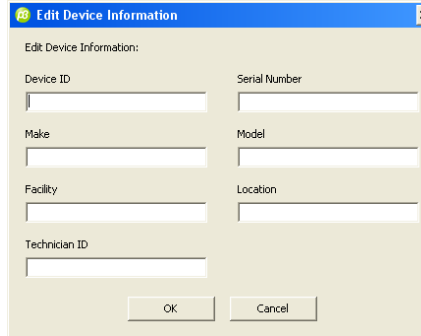

Fig. 4
- Any time the Configuration screen is active, the Device information can be entered/edited by selecting the “Edit Device Information” button. This will open the Device Information screen (Fig. 4) where the Device ID, Serial Number, Make,